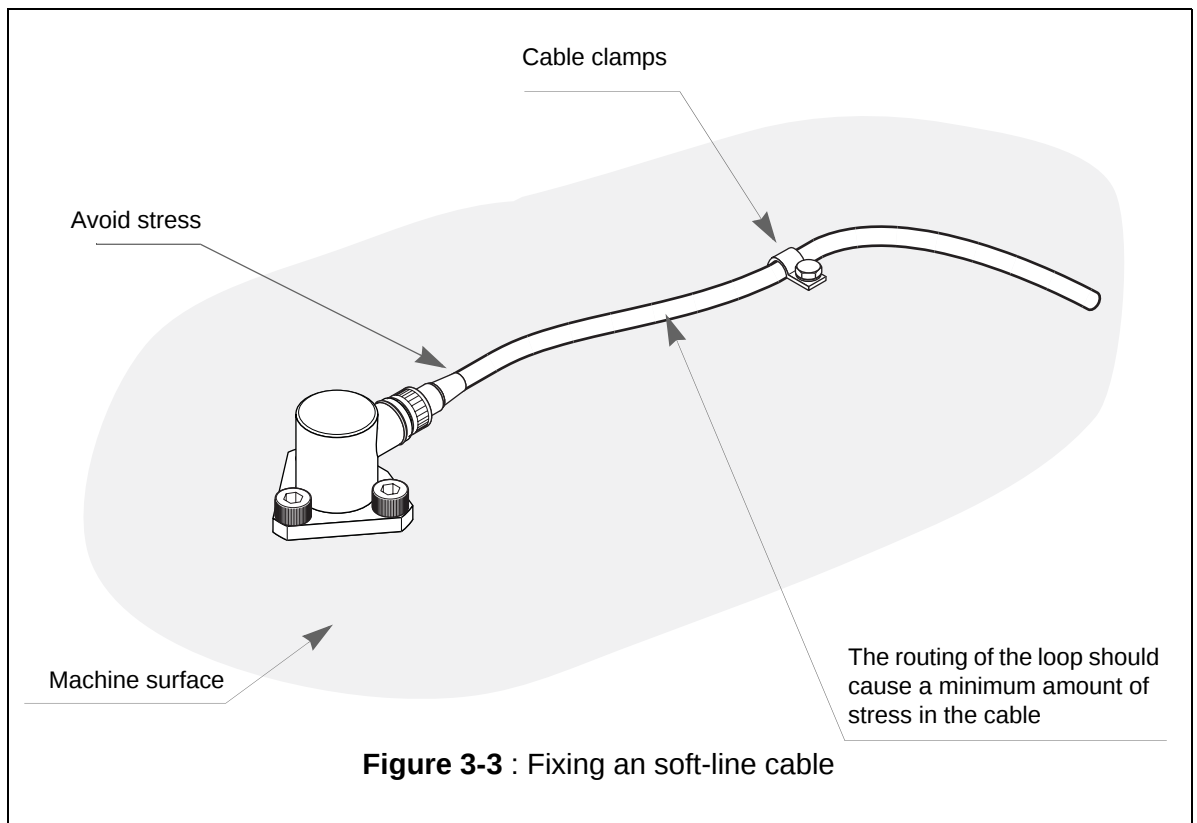

Figure 3-3 : Fixing an soft-line cable
- 2- Clamp the cable as close as possible to the pressure transducer (see Figure 3-3). Take care not to create stress in the cable.